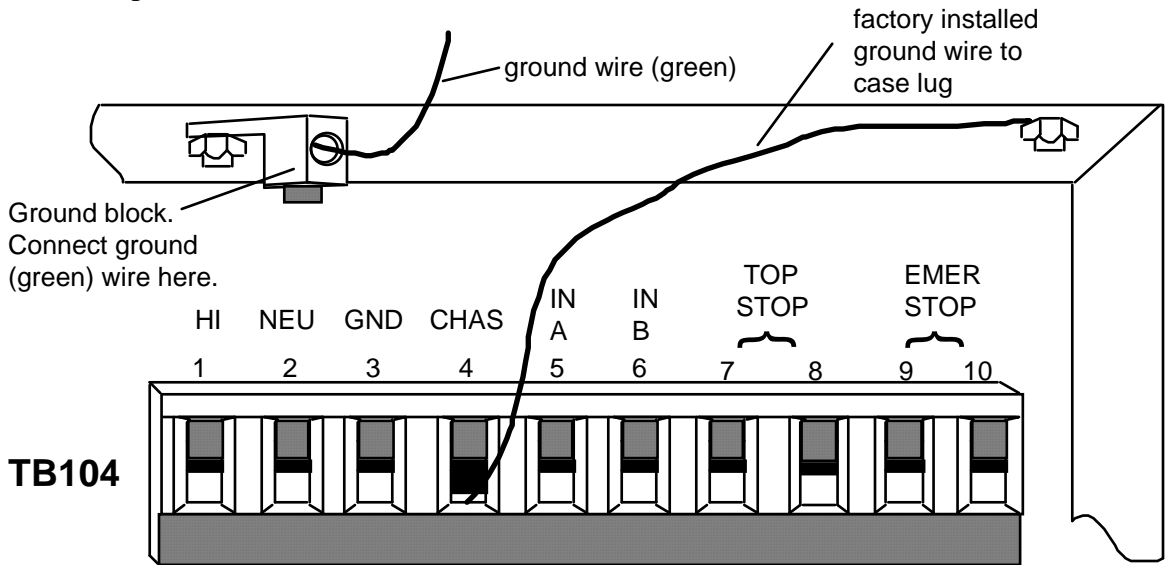

Figure 2-10. Connector and ground block for AC power.
7. First connect the ground (green or green/yellow) wire. It must be connected to the ground block as shown in Figure 2-10, not to "GND" terminal on the connector. The ground block is located on the wall of the enclosure just above the connector as shown. To connect to ground block, strip ground wire about 1/4" (6.4 mm) from end, loosen screw on block, slide wire in hole, and tighten screw to pin wire in place.
NOTE: A ground wire is attached from the connector to a case lug as shown in Figure 2-10. Leave the ground wire attached to the connector while making connections. *If you remove this wire in order to pull the connector all the way out of the enclosure, be sure to replace it when done.*
9. Connect power wires as shown in Figure 2-10. For 115 Vac, connect black wire to HI terminal and white wire to NEU. (For 230 Vac connect black wire to HI terminal and red wire to NEU). Attach wires the same way you did for resolver and RCB wires.
13. Plug connector back into its slot. Double check connections with markings at the connector base to make sure you did not wire it backwards. (Note: first "GND" from left in Figure 2-10 is not used).